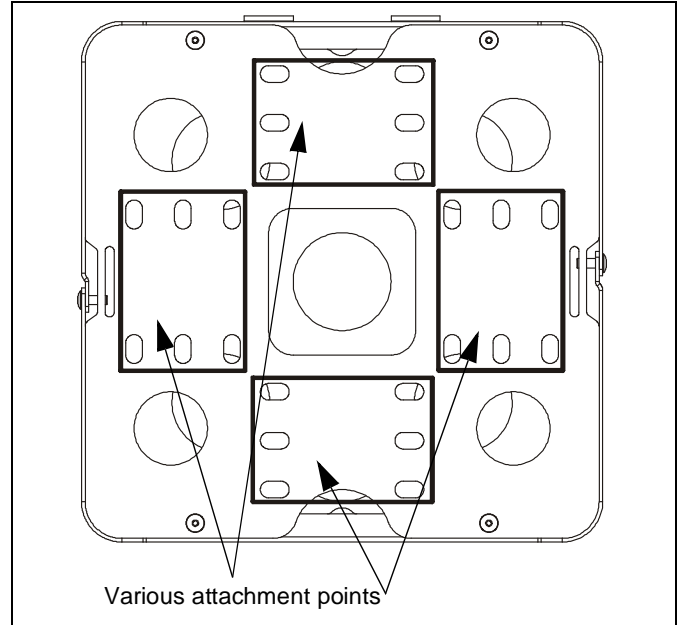

Figure 6
**NOTE:** The FCA510/FCA515 may be installed with the enclosure door opening in either a horizontal or vertical direction, and may be attached using various attachment points on the FCA510/FCA515. (See Figure 6)